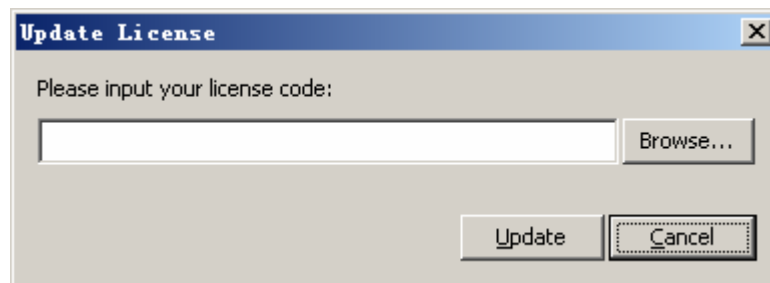

Figure 4-6 Update License dialog box
- 3) Enable the update license function, as shown in Figure 4-6.